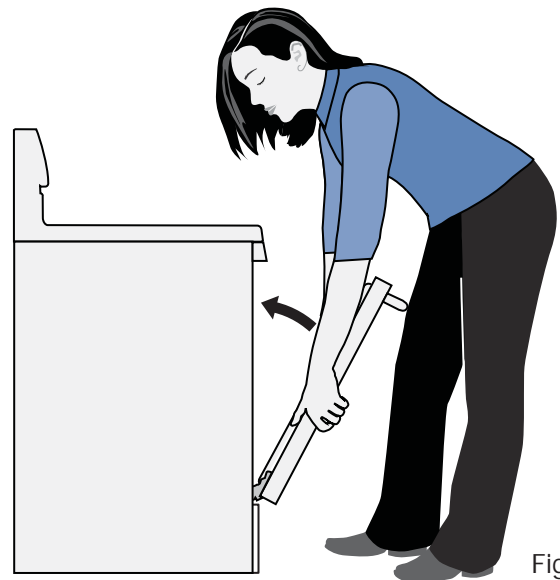

Fig. 3
5. Carefully lift door away evenly, slightly up and out until both hinge arms are clear of the hinge slots in the oven frame -*Fig. 3*. After door has been removed, be sure to lay the door flat with the inside of the door downward (never rest the oven door with any weight on the door handle).